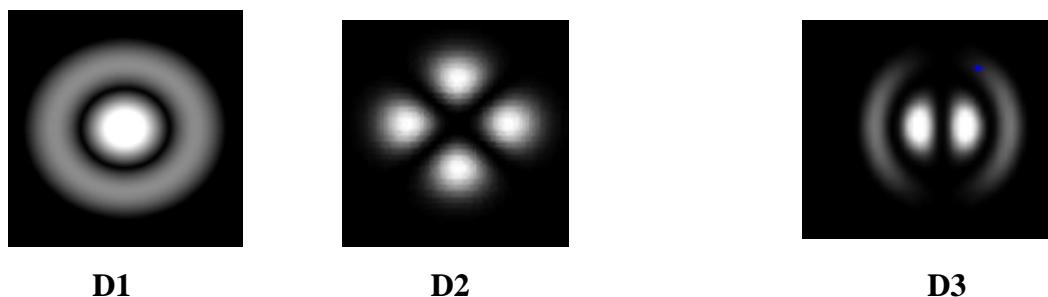

Figure 2
- 5/ We place the camera in front of the beam at  $\lambda_5$ . For particular arrangements of the fiber (bends, twists...) we sometimes observe intensity distributions on this camera corresponding to that of pure LP modes. For example, we can obtain the intensity distributions D1 or D2 shown on Figure 2. What are the names of the LP modes corresponding to these two intensity distributions ? What other mode(s) should we also observe? Why ? Schematically represent the spatial intensity distribution in this (these) other mode(s).